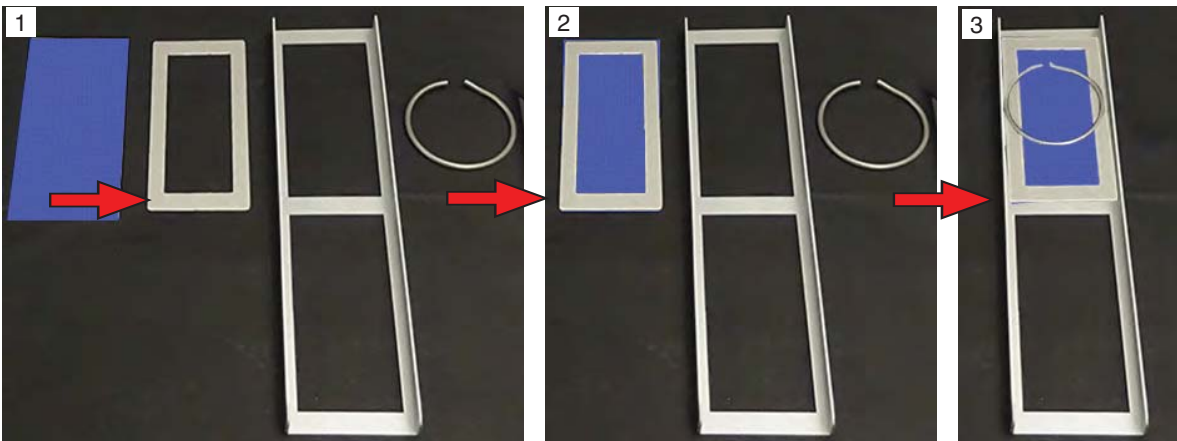

Figure 11.4p: Textile specimen mounted in textile/thin film holder.
- The textile/thin film holder (Part Number X-10255-X) is shown in Figure 11.4p.